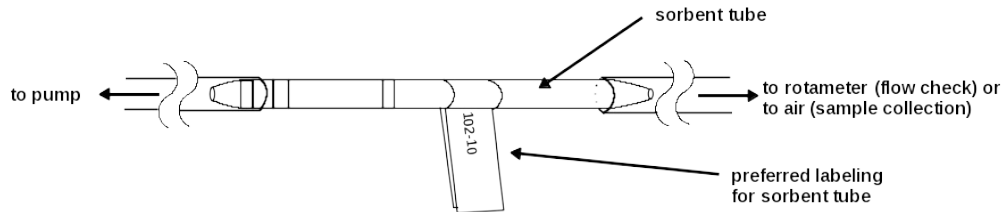

Figure T1-2. Diagram showing orientation of sorbent tube and placement of ID label.
NOTE T1-3. Direction of air flow through sorbent tubes. The arrow on the sorbent tubing MUST go toward the pump. If no arrow is shown on tube, examine the dark colored media in the tube. There will be a small section of media closer to one end that is capped by narrow ribbons of packing material. It is this section that must point toward the pump. This section is used to capture any breakthrough of formaldehyde that slips past the media before this smaller section. This section, that must point toward the pump, also happens to be the end of the tube where all the media is located (the other end is empty as diagrammed in Figure T1-2).
4.6 Label, record and store the sample. Get the sample ID label from subkit T1. Wrap the label around the opened sorbent tube as shown in Figure T1-2. Place a replicate ID label on the field blank row of *Formaldehyde in Air Sample Collection Log*. Temporarily store this sample in subkit T1 until it can be transferred back into Box 3 inside Kit (C) in the auto for transport back to the local base of operations where they can be placed into the freezer (See Note I3-4).
6.3 Label, record and store the sample. Get the sample ID label from subkit T1. Wrap the label around the opened sorbent tube as shown in Figure T1-2. Place a replicate ID label on the regular sample row of *Formaldehyde in Air Sample Collection Log*. Temporarily store this sample in the T1 subkit bag until it can be placed into Box 3 inside shipper Kit (C) used for cold transport back to the local base of operations where they can be placed into the freezer.
- (1) Obtain a new sorbent tube with 2 red caps (loose).
- (2) Open a new sorbent tube. Open both ends of the tube using the Procedure to Open Sorbent Tubes.
- (3) Place a "Field Calibration Check Only - XX" label on tube (See Note T1-5). Wrap the label around the opened sorbent tube as shown in Figure T1-2. Be sure to place the label so that it is at least 1" from the ends to allow room for the red caps which get placed on the opened ends after sample collection.